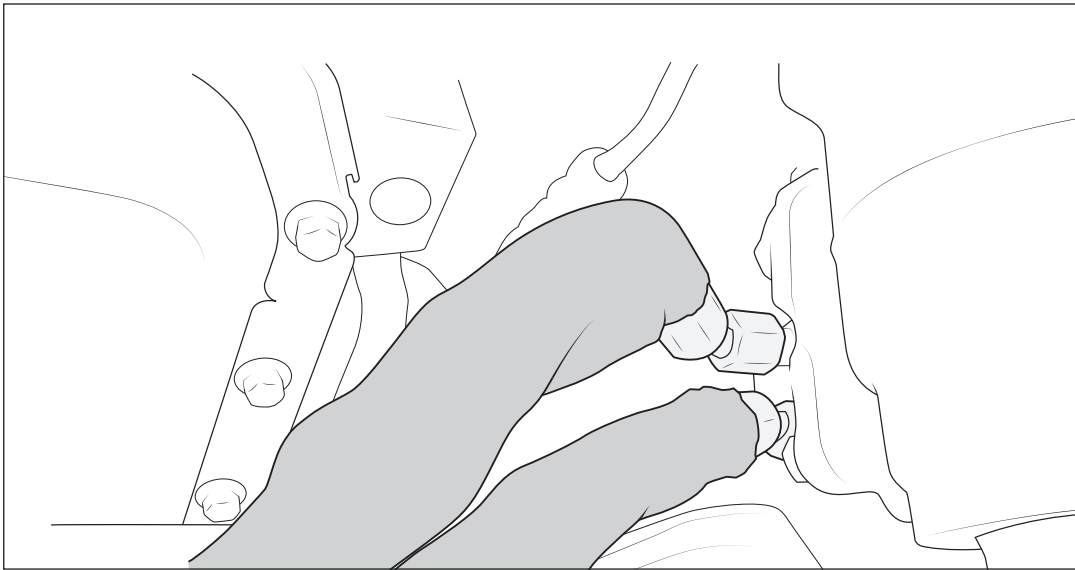

Figure 5
3. Install hydraulic hoses for ram. The longer line will go to the top port on the steering box (fig. 5).